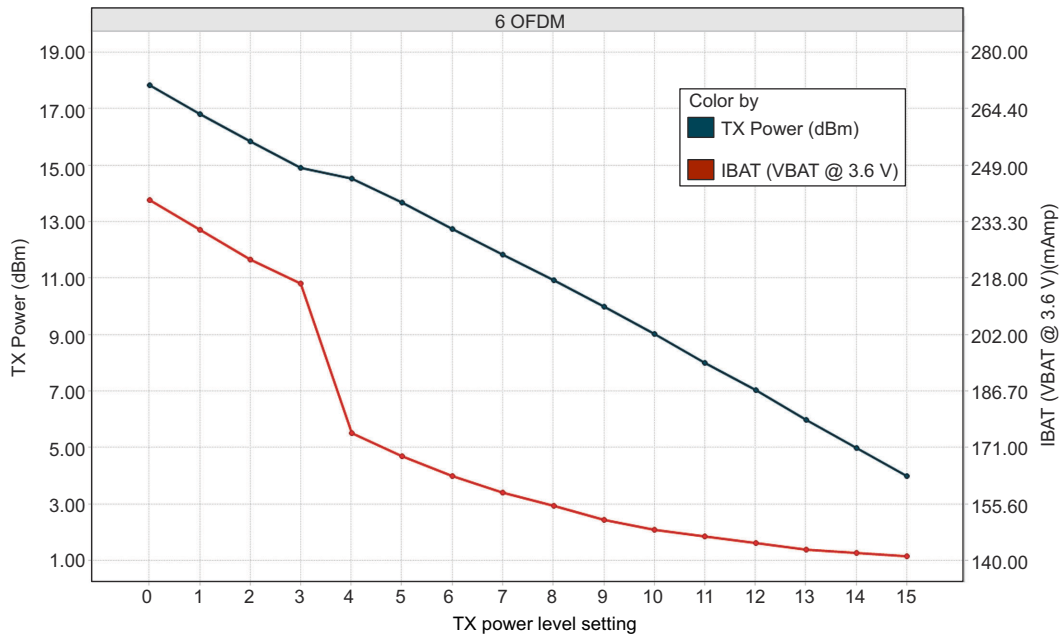
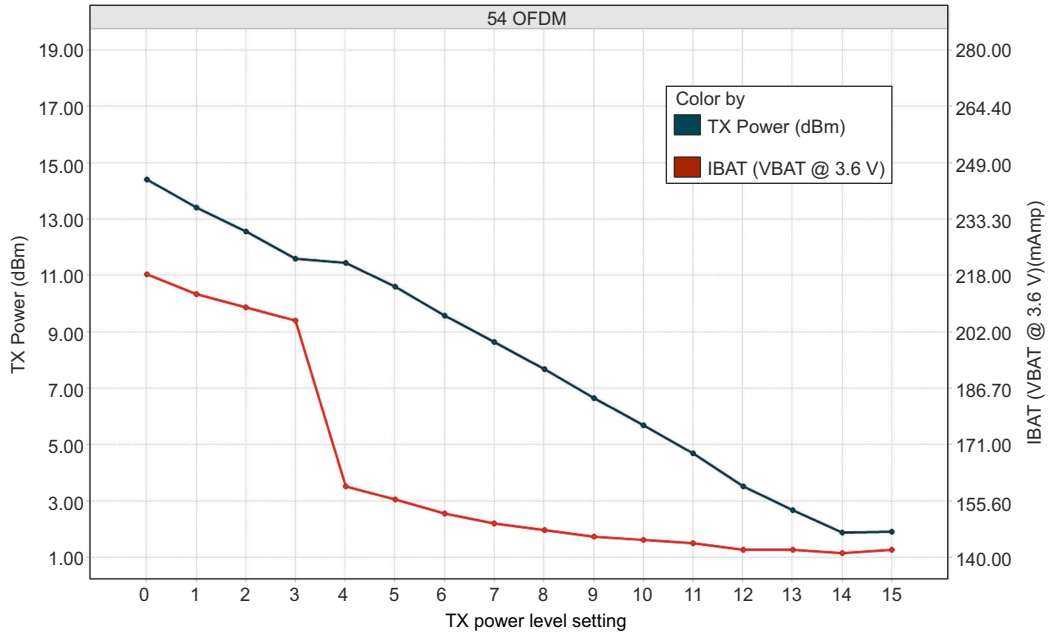

Figure 7-2. TX Power and IBAT vs TX Power Level Settings (6 OFDM)
Figure 7-3. TX Power and IBAT vs TX Power Level Settings (54 OFDM)
- (1) TX power level = 0 implies maximum power (see Figure 7-1, Figure 7-2, and Figure 7-3). TX power level = 4 implies output power backed off approximately 4 dB.
- (2) DTIM = 1
- (3) The complete calibration can take up to 17 mJ of energy from the battery over a time of 24 ms. In default mode, calibration is performed sparingly, and typically occurs when re-enabling the NWP and when the temperature has changed by more than 20°C. There are two additional calibration modes that may be used to reduced or completely eliminate the calibration event. For further details, see CC3120, CC3220 SimpleLink™ Wi-Fi® and IoT Network Processor Programmer's Guide.
- (4) The CC3120R system is a constant power-source system. The active current numbers scale based on the V_{BAT} voltage supplied.
- (5) For the 1.85-V mode, the hibernate current is higher by 50 µA across all operating modes because of leakage into the PA and analog power inputs.
- (6) The RX current is measured with a 1-Mbps throughput rate.